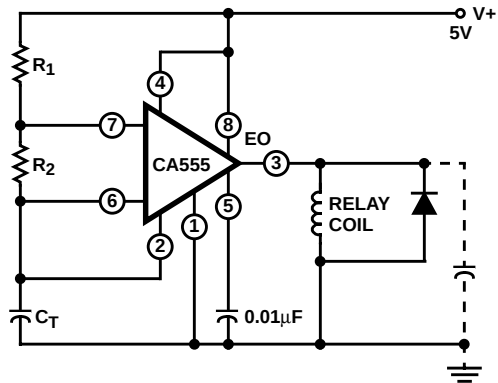

FIGURE 4. REPEAT CYCLE TIMER (ASTABLE OPERATION)
3. The threshold current will determine the sum of the values of R_1 and R_2 to be used in Figure 4 (astable operation); the maximum total $R_1 + R_2 = 20\text{M}\Omega$.
Figure 4 shows the CA555 connected as a repeat cycle timer. In this mode of operation, the total period is a function of both R_1 and R_2 .